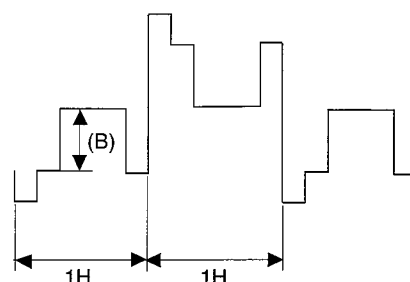

Fig. 2-104
(6) Contrast Adjustment (Fig. 2-104)
- 4) Press the **U** and **D** keys so the level at section (B) of the waveform is $2.1V \pm 0.02V_{p-p}$. (See Fig. 2-104)